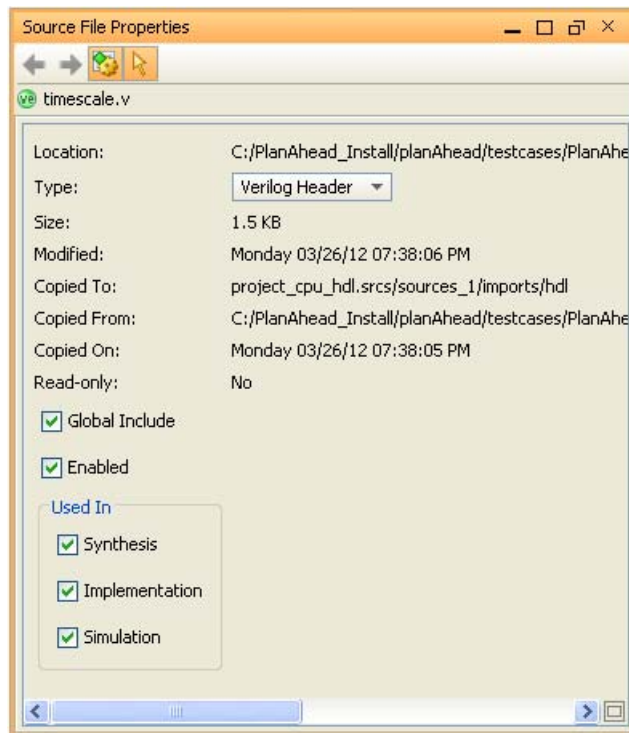

Figure 6-1: Global Include
- Use the **Global Include** checkbox in the Source File Properties view, as shown in Figure 6-1.